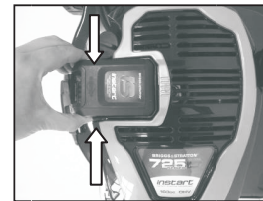

Fig.7C
1. Press and hold the battery latch buttons at both sides of the battery pack. (Fig.7C)